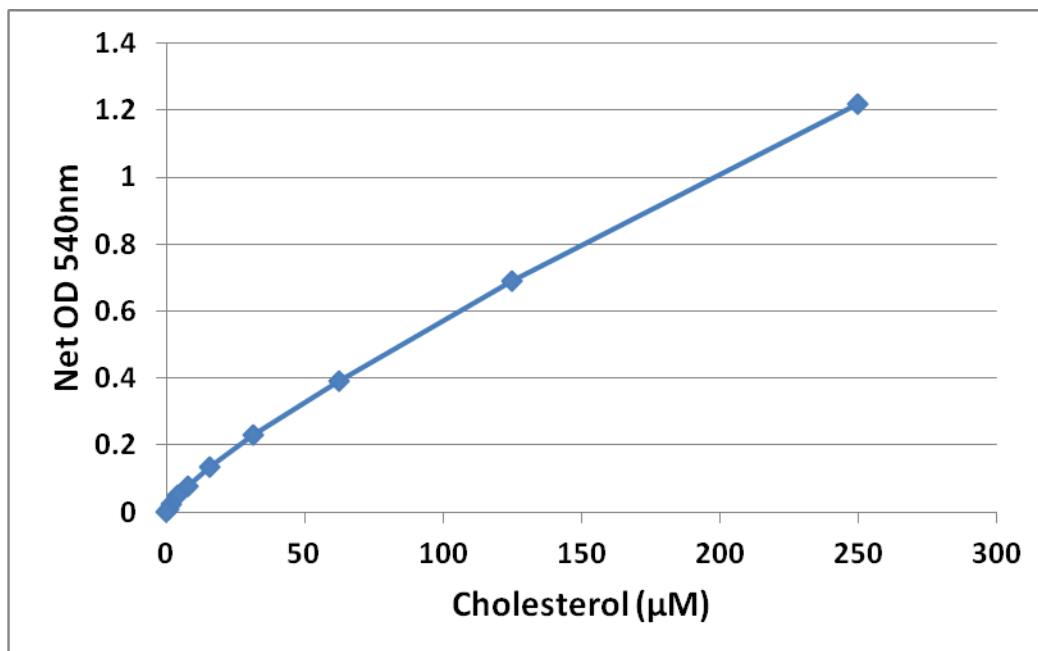

Figure 2: Cholesterol Standard Curve.
2. Plot the corrected absorbance for the standards against the final concentration of the cholesterol standards from Table 1 to determine the best curve. See Figure 2 for an example standard curve.